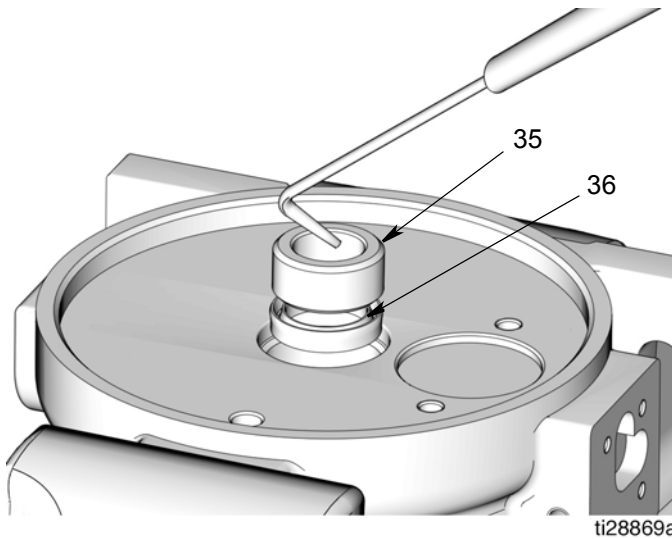

FIG. 26
22. Use a pick to remove the bushing (35) and u-cup seal (36) (FIG. 26).